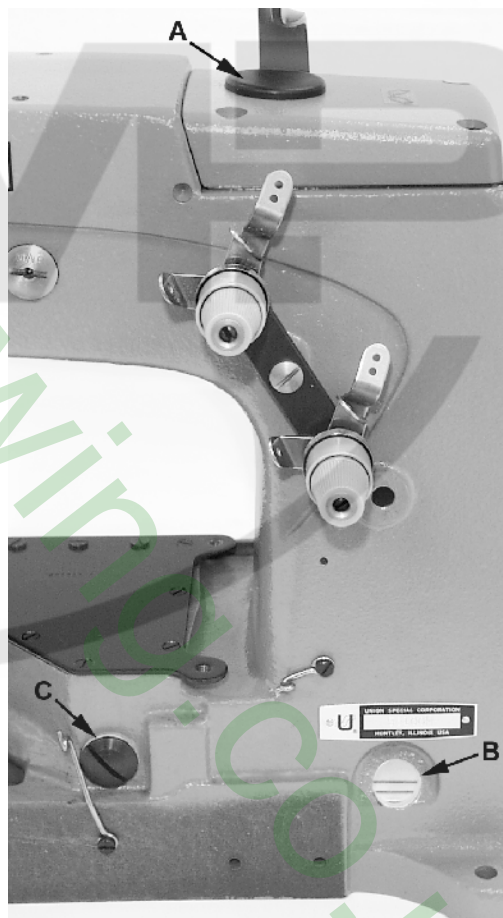

Fig 2
Before operating, fill machine with oil at plug screw (A, Fig. 2). While filling machine with oil, check gauge (B). When proper oil level is reached, the oil level should appear in the center between the two red lines on gauge (B). It is recommended to always check oil level before operating to be sure machine is filled between the lines. **CAUTION: DO NOT** over fill machine.